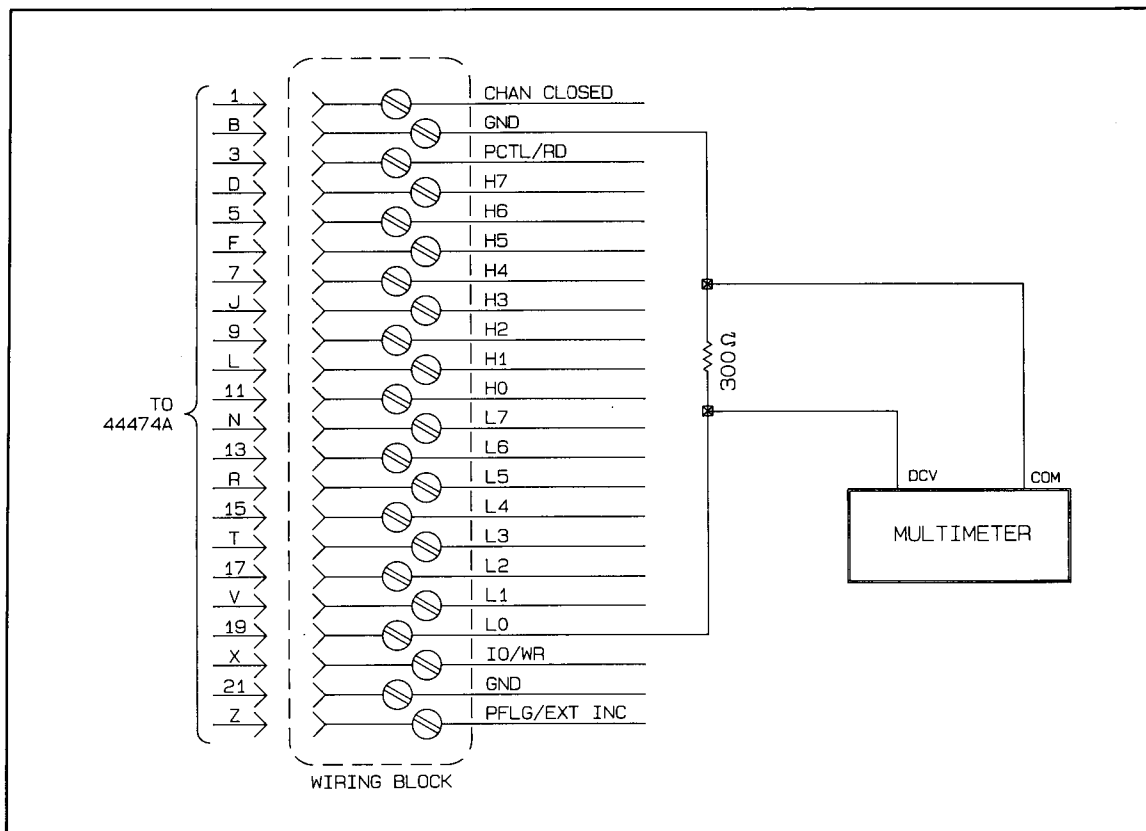

Figure 12-4 Data Line High Output Test
2. Connect the multimeter, and the 300 ohm resistor to the LO BYTE 0 line as shown in Figure 12-4. The dc voltage should be $\geq 2.4\text{Vdc}$.